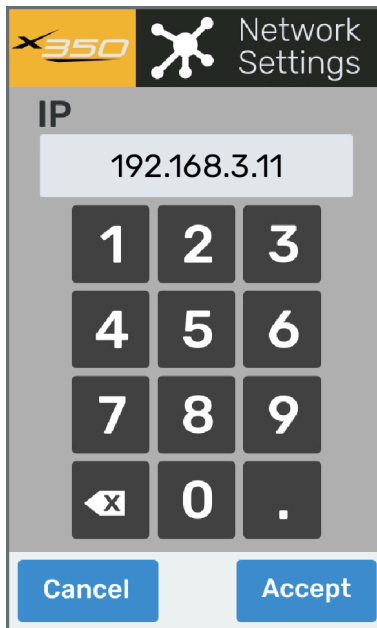

Figure 4.20 — Editing the IP Address
2. Tap the **IP** box, and then type a unique IP address for the head (Figure 4.20).